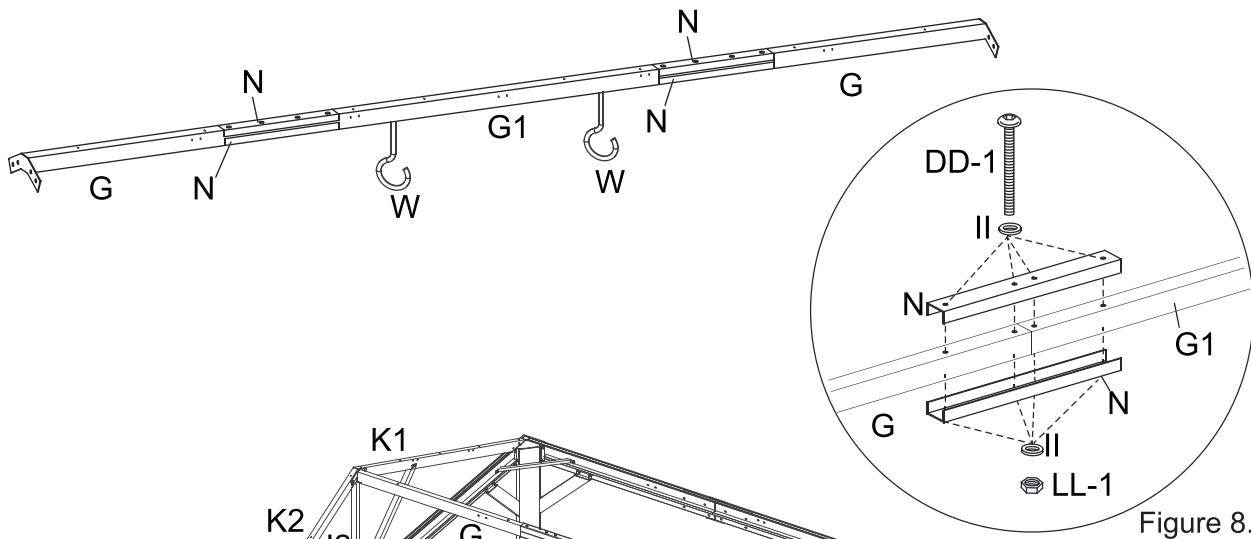

Figure 8.1
8.1 Connect the Connector (N) and the Middle Support bar (G/G1) with the Bolt (DD-1),Washers (II) and Nut (LL-1). See Figure 8.1.